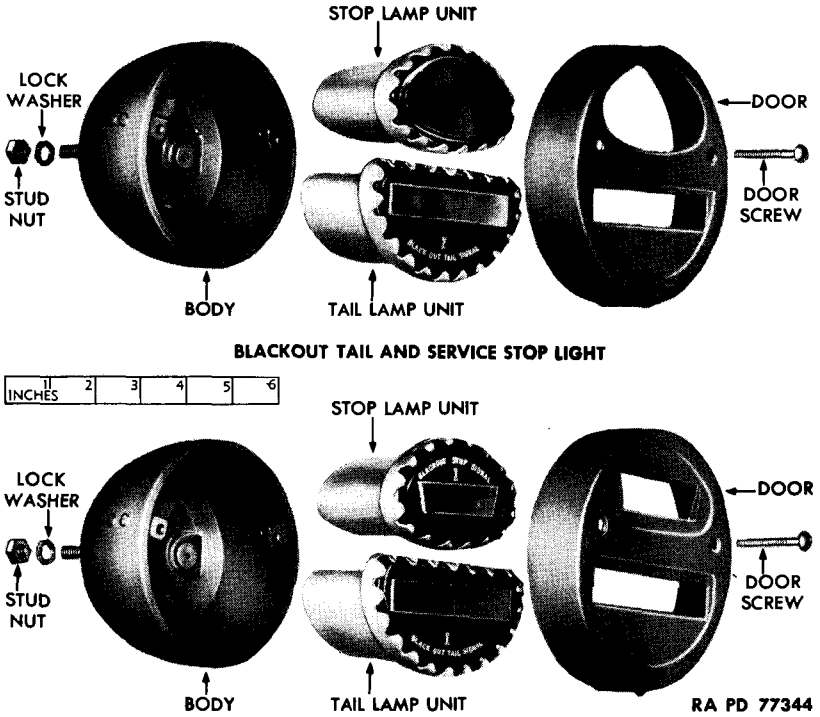

Figure 101 – Tail and Stop Lights Disassembled
(1) **DESCRIPTION** (fig. 101). The blackout tail and service stop light is attached to the frame rear crossmember at the left of the pintle hook. It contains two sealed beam lamp-units, each unit consisting of a lens, lamp, and reflector replaceable only as a unit. The blackout
(1) **DESCRIPTION** (fig. 101). This light is attached to the frame rear crossmember at right of pintle hook, and is similar to the blackout tail and service stop light, except that the blackout stop light emits a small triangle of shielded light visible only from rear.
(2) TABULATED DATA.